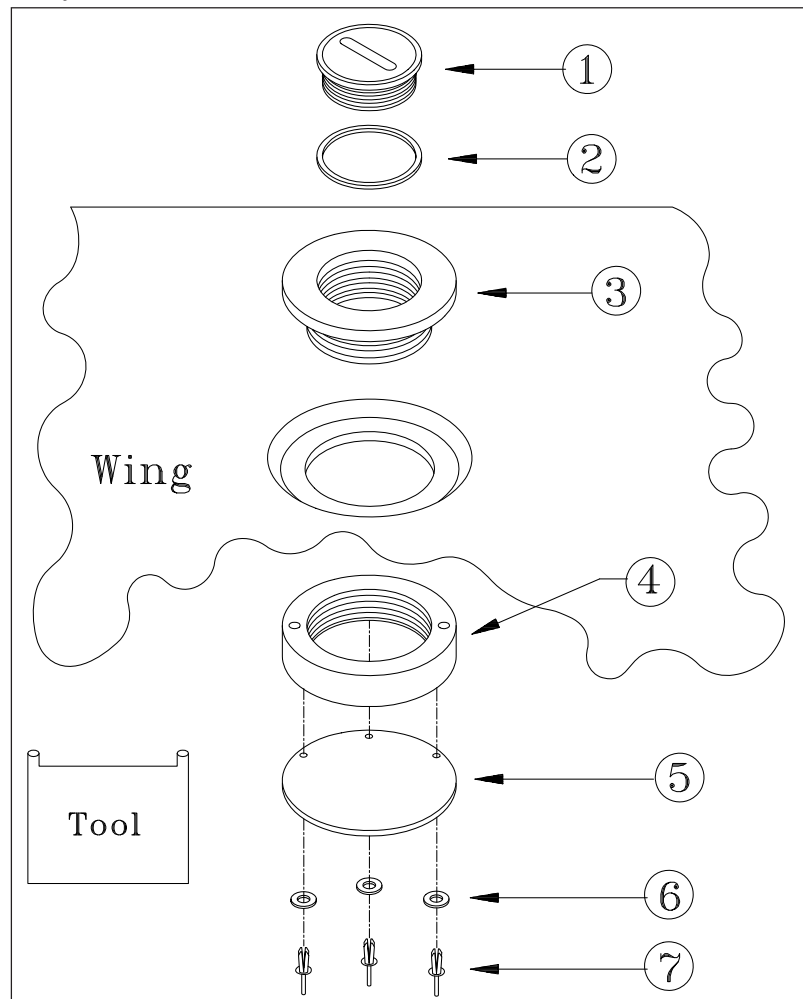

Figure 8
- 3 Unscrew filler neck lock ring (4, Figure 8) with sealing lip (5) using a tool as shown in Figure 8.
- 4 Remove filler neck (3) with filler cap (1) and O-ring (2).
- 1 Carefully drill out the body-bound rivets (7, Figure 8).
- 2 Install the new sealing lip driving in new washers (6) and body-bound rivets.